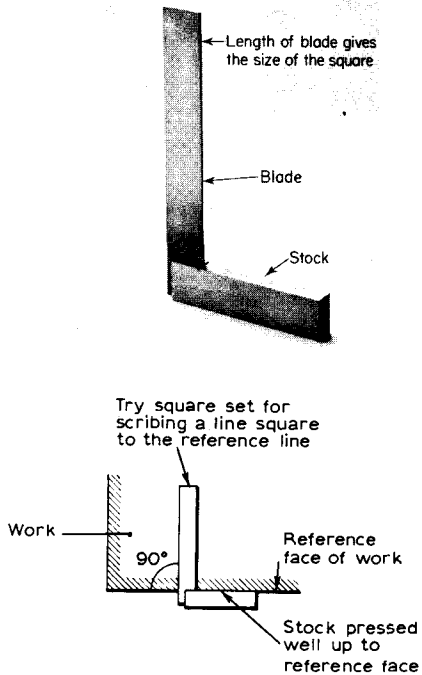

Fig. 4.27 The engineers' try-square
**Measurement of angles.** For measuring and checking angles of  $90^\circ$  the engineers' try-square (Fig. 4.27) is